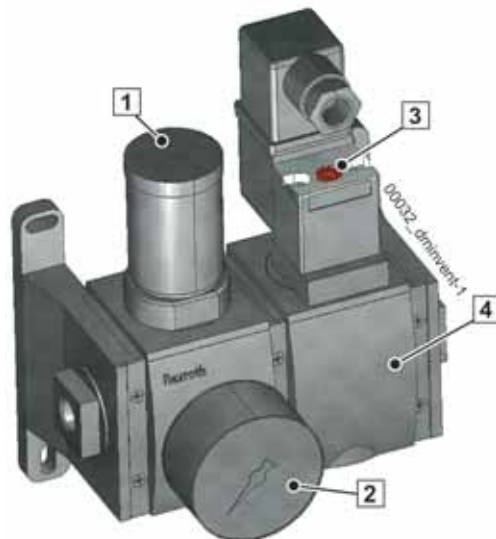

Fig. 451
In the event the electrical control system fails, the solenoid valve (4) (**Fig. 451**) can be switched using an emergency release (3) (**Fig. 451**).
- Read the pressure gauge (2) for the pressure release valve (**Fig. 451**).
- Set the pressure to 5 bar by turning the set screw (1).